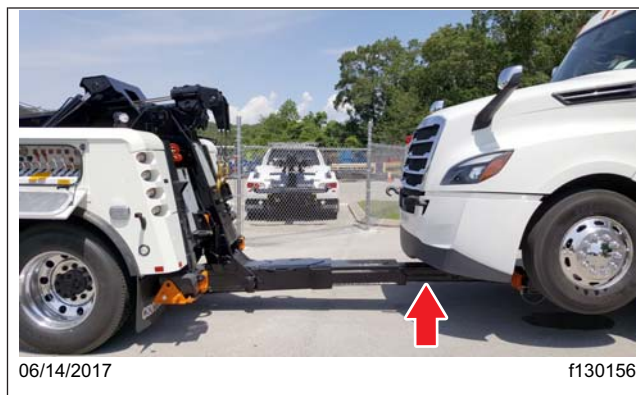

Fig. 13.16, Retracting the Recovery Boom
12. Remove the tow cables from the tow hooks and retract the recovery boom. See Fig. 13.16.